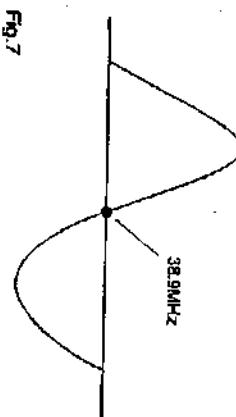

Fig.7
4. Adjust TR04 for waveform as shown in Fig.7.